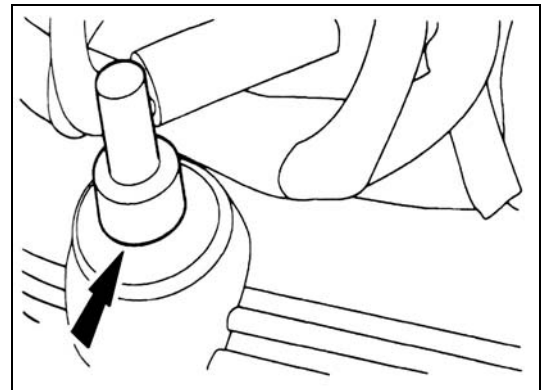

**Figure 8**
11. Loosen the stainless steel tube nut from the EGR valve (Figure 8).